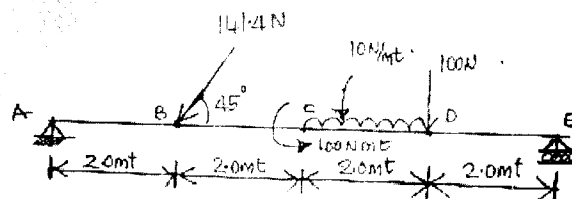

Fig. Q5 (b)
b. Determine the support reactions for the beam shown in Fig. Q5 (b). (12 Marks)